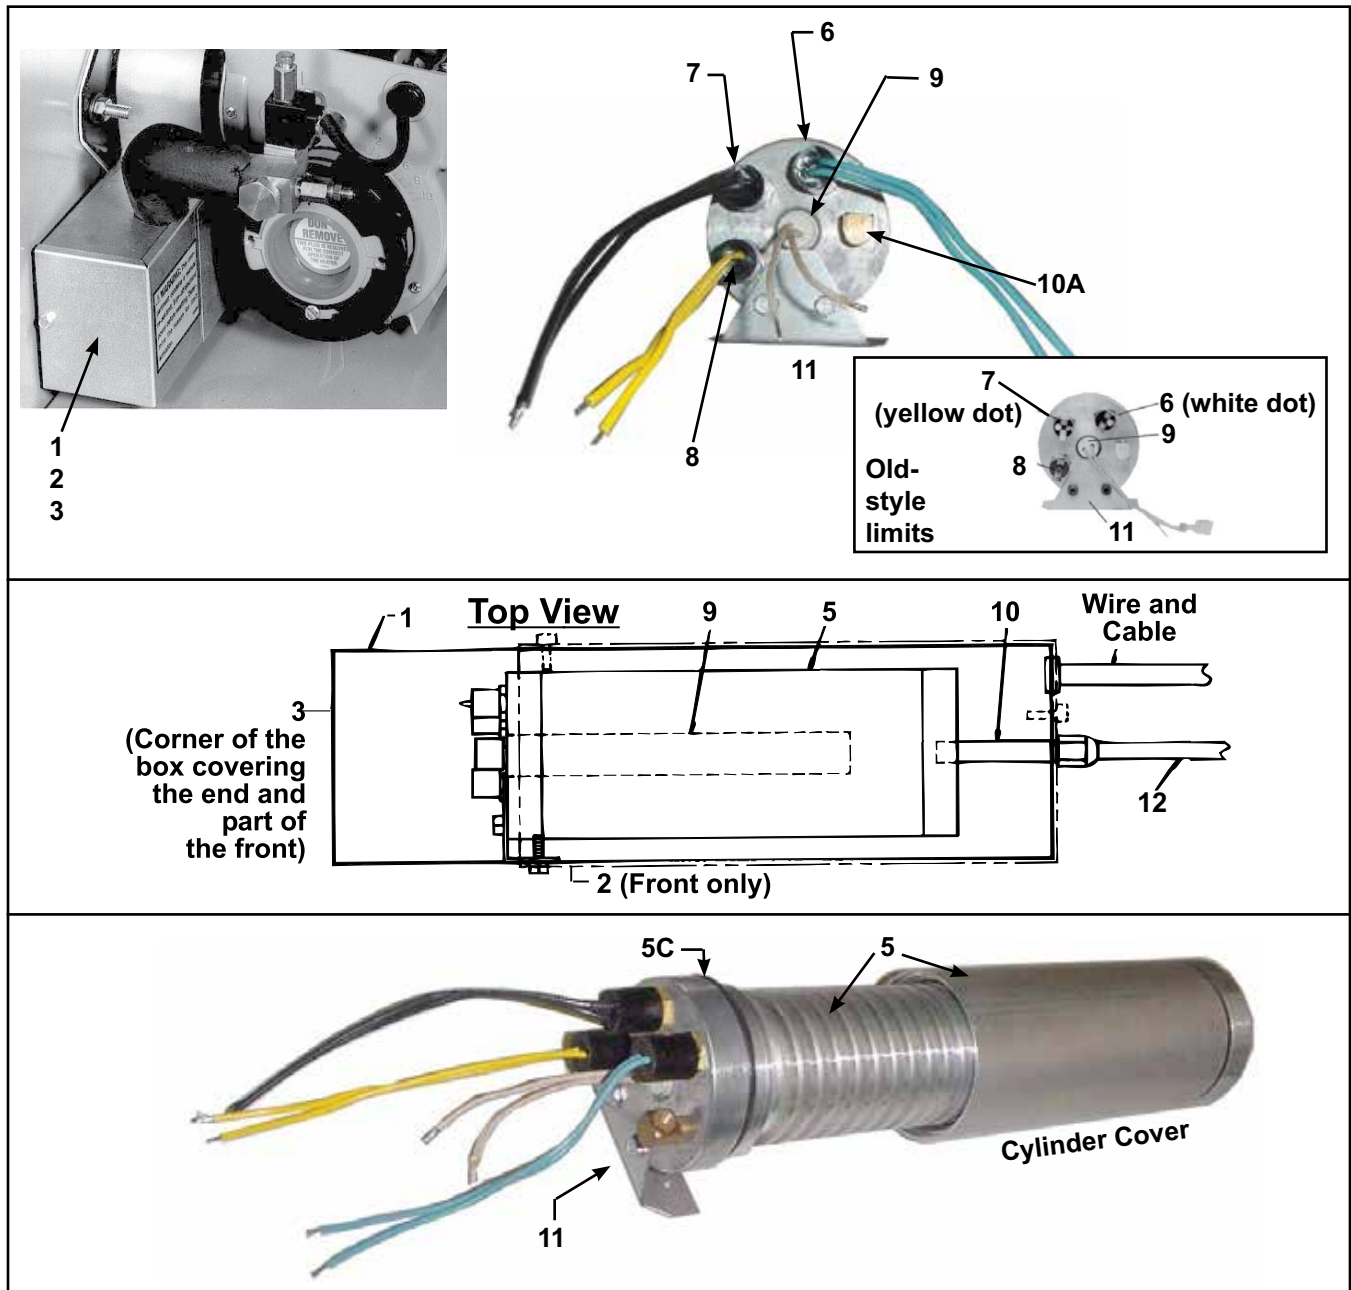

Figure 2. Oil Pre-Heating System Components (Refer to Table 4)
- Oil pre-heating system components are shown in Figure 2 and listed in Table 4.
- To remove the heating element (item 9), remove the heater front support and pull the heating element forward.
- The oil is heated as it flows around the cylinder (item 5A).